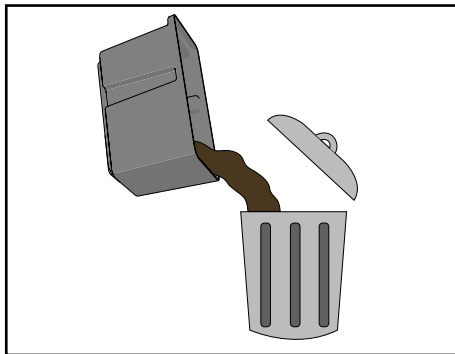

Figure 49.
18. Empty the waste bucket (see Figure 49) and drip tray.